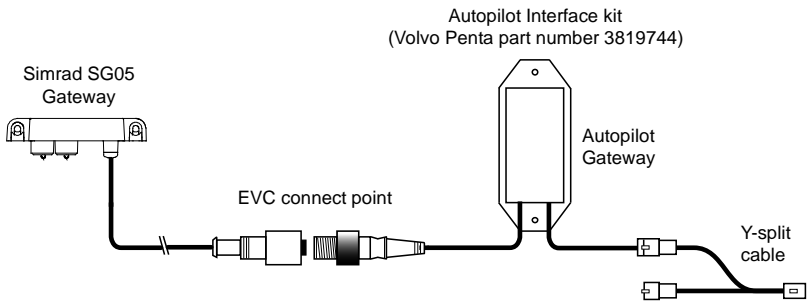

Figure 2-4 SG05 connection to Volvo Penta Autopilot Interface
- * The EVC connect point is a connector on the Volvo Penta Autopilot Interface kit. It can be ordered from Volvo Penta under P/N 3819744 (See Figure 2-4).
- Connect the 1 m pigtail plug into mating connector of the Volvo Penta Autopilot Interface. Figure 2-4